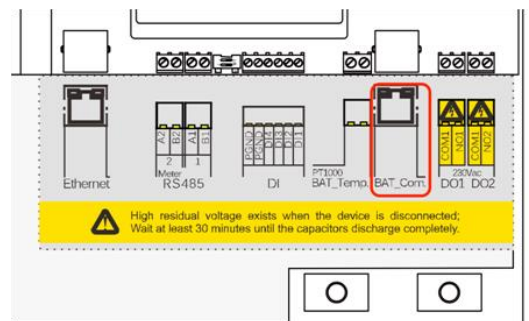

Figure 4 BAT_Com. port in the inverter
Step 4 Insert the RJ45 plug into the BAT_Com. port (Figure 4) on the configuration circuit board until it makes a clicking sound